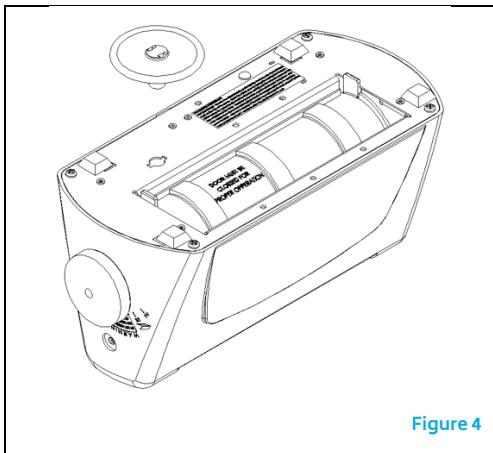

Figure 4
2. From the bottom of the folder, rotate the dejamming handle until it is free then remove the handle from the folder. (Figure 4).